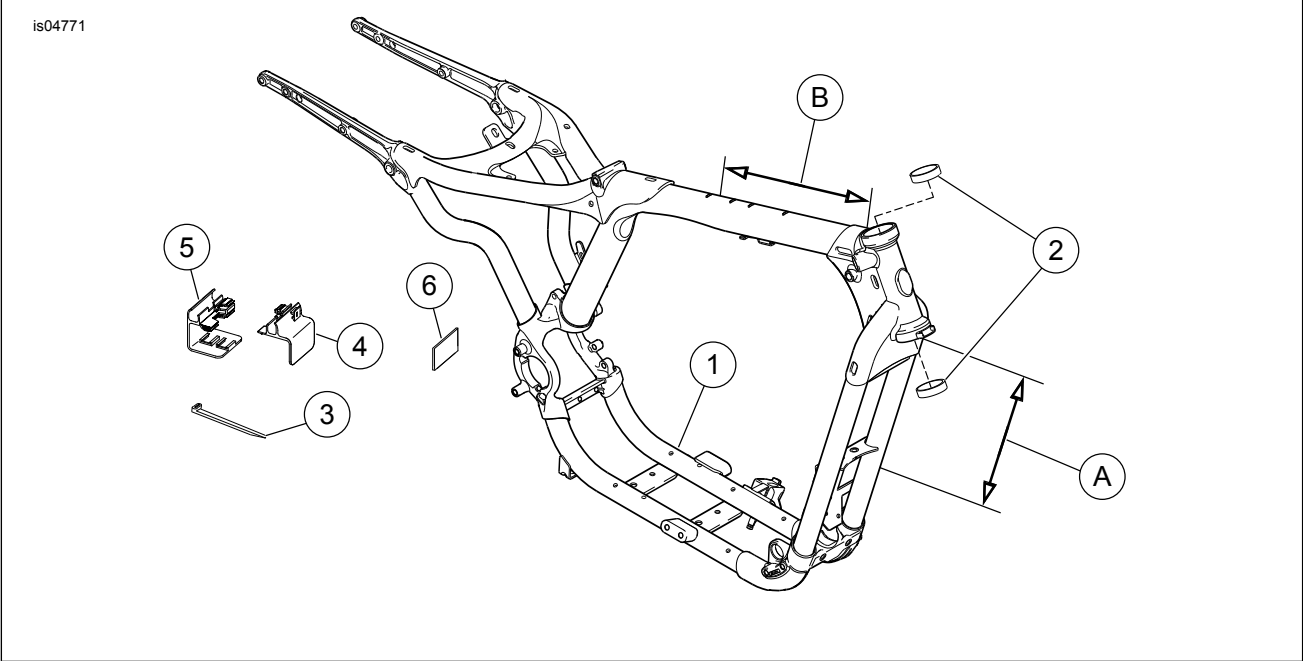

Figure 2. Service Parts for Sportster Frame Kit
See Figure 2 and Table 1.
See Figure 2. After completing the installation of this frame kit, the original frame head stock that contains the Vehicle Identification Number (VIN), along with a minimum of 12.0 inches of the front down tubes (A) and 12.0 inches of the backbone (B) from the headstock **MUST** be returned to your local Harley-Davidson dealer. (There may be situations that require the entire frame to be returned, but only when instructed by Technical Services). If the entire frame is returned without prior Harley-Davidson authorization, the dealer will not receive credit for the freight costs for the entire frame. Your new frame will have the correct VIN number stamped on the headstock.